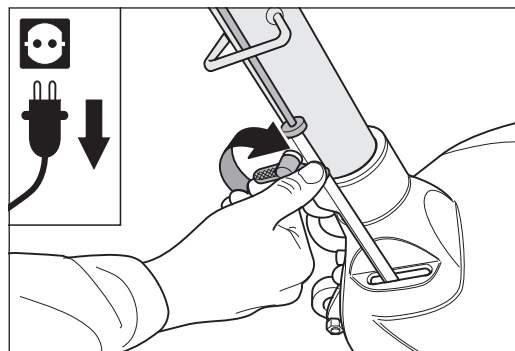
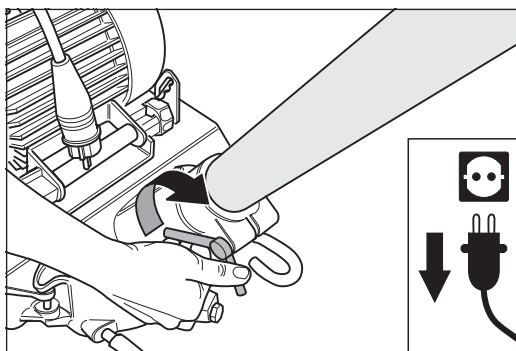

Fig. 58 After inserting the guide tube, carefully tighten the wing screw at the lower rod.
Fig. 59 After inserting the guide tube, carefully tighten the wing nut at the machine housing.
- 3 Carefully tighten the wing screw at the lower rod (fig. 58) and the wing nut at the machine housing (fig. 59).